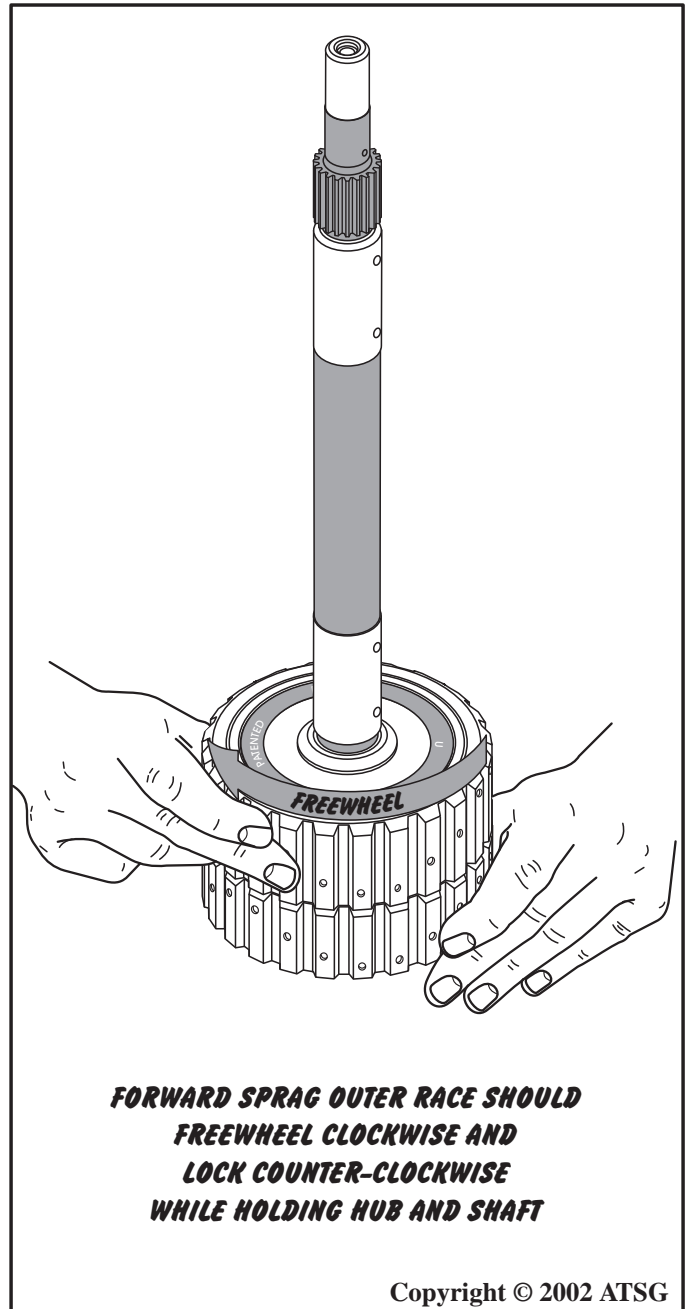

Figure 103
10. Check the forward sprag for proper operation as shown in Figure 103.
Note: Forward Sprag Outer Race should freewheel clockwise and lock counter-clockwise, as shown in Figure 103.